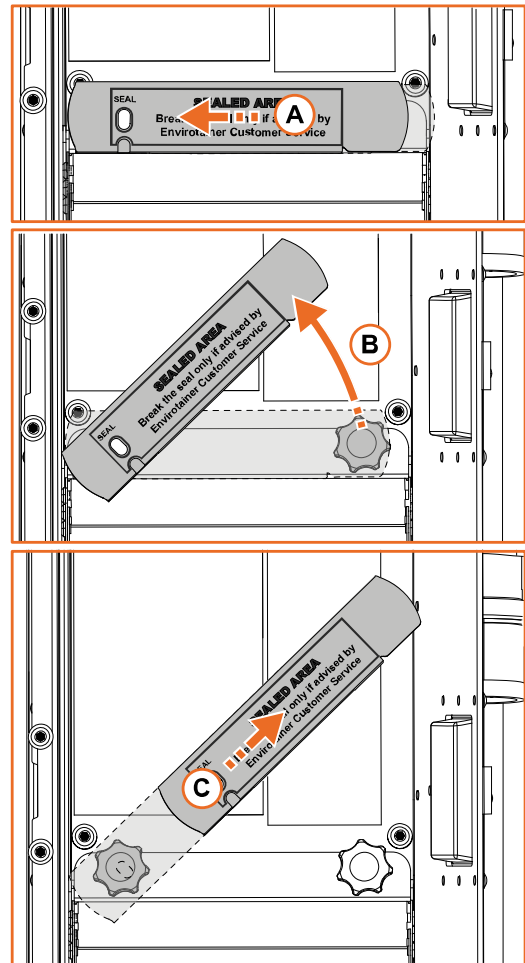

Fig. 26
3. Remove the bracket covering the two thumbscrews (**Fig. 26**):
- 3a. Push the bracket as far to the left as possible (A).
- 3b. Rotate the bracket upwards around the left thumbscrew, while keeping the left end of the bracket close to the left wall (B).
- 3c. Slide the bracket off the left thumbscrew at an angle (C).